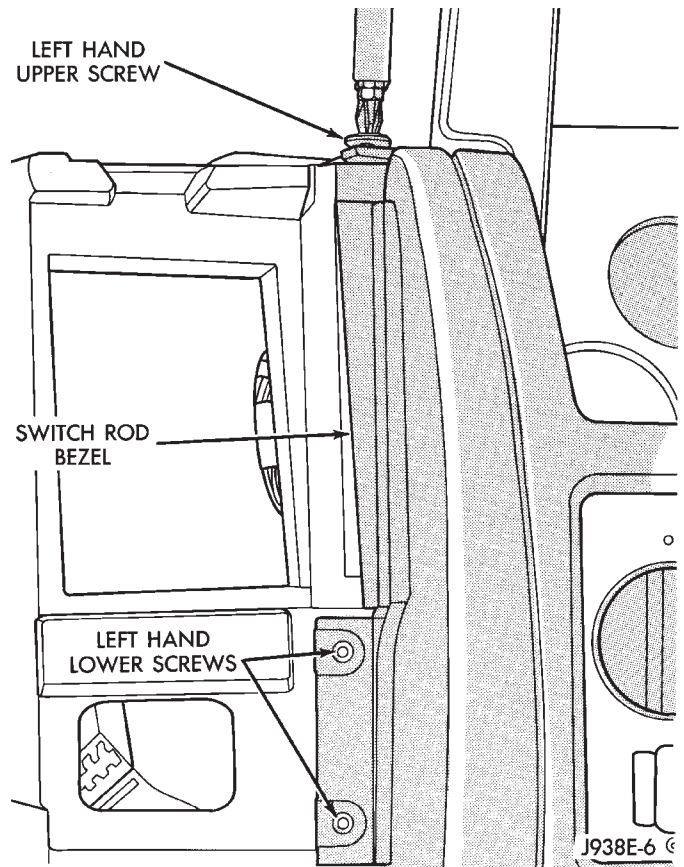

Fig. 9 Left Hand Switch Pod Bezel Screws
- (19) Remove 2 screws holding left side of switch pod bezel (Fig. 9).